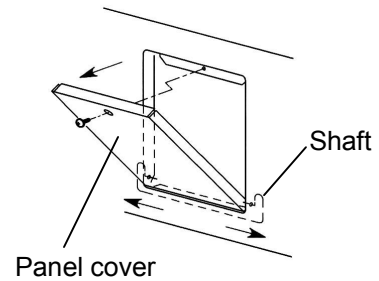

Fig. 1
2. Unscrew the screw fixing the panel cover at the space for automatic temperature recorder and open the panel cover. [Fig. 1]
2. Unscrew the screw fixing the panel cover at the space for temperature recorder and open the panel cover. [Fig. 1]
1. Remove the top cover on the right front of the refrigerator top by unscrewing 4 screws. [Fig. 1]